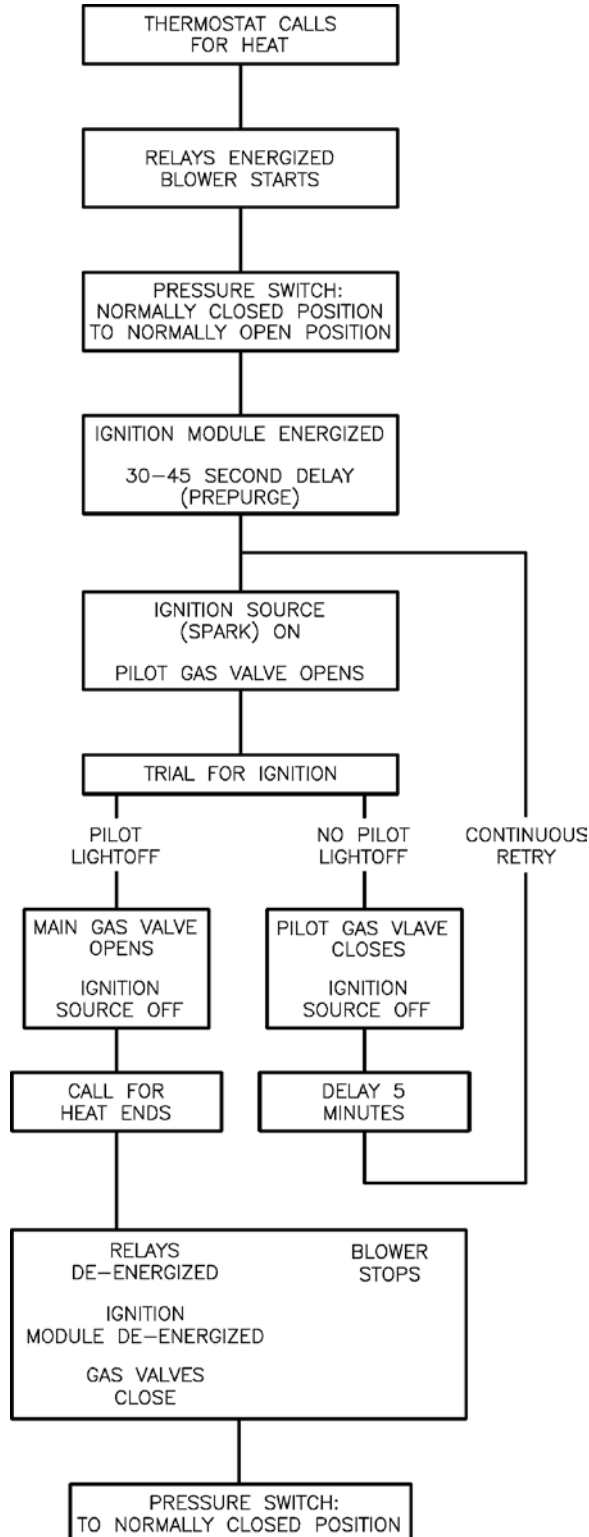

Figure 16: Sequence of Operation
E. Sequence of Operation See Figure 16.